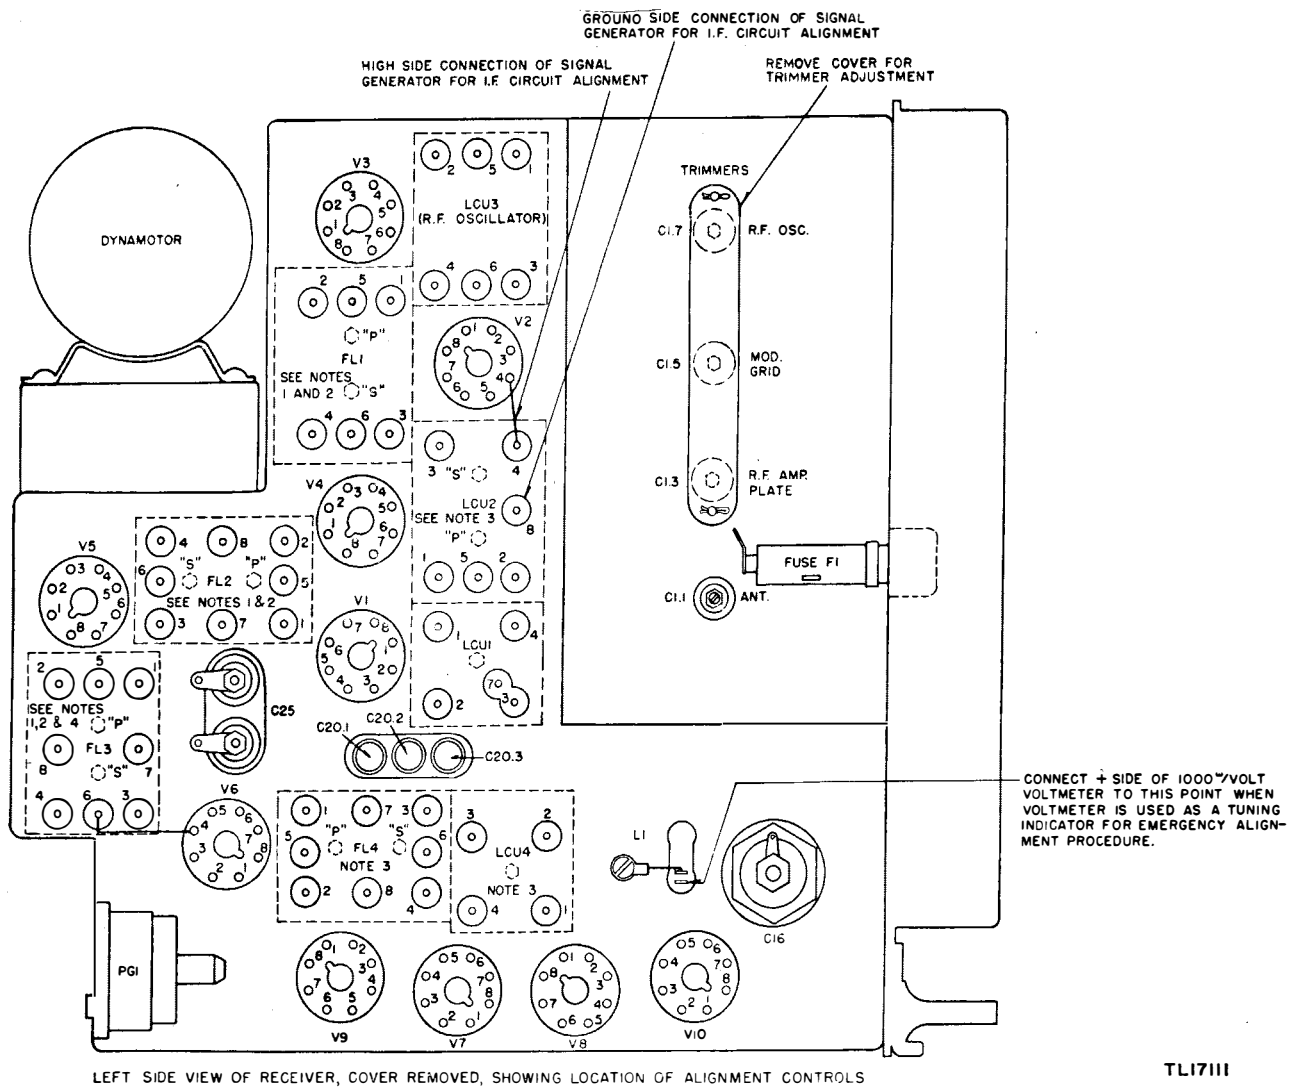

Figure 22. Radio Receiver BC-603-(*), location of alignment and tuning controls.
(2) Short-circuit terminals 1 and 2 of FL3 of the good receiver with a short clip lead.
(3) Connect terminal 7 of FL4 in the good receiver, through the capacitor which is in series with the remaining wire of the twisted pair, to terminal 4 of tube V2 in the trouble receiver. The untwisted part at the ends of the pair of wires should be as short as possible, and the capacitor should be nearest to the good receiver.
(4) Place the SPEAKER switch of the trouble receiver at ON.
(5) Clip a voltmeter across L1 of the trouble receiver. Attach the minus side of the voltmeter to the ground lug. (See fig. 22.) Use the 3-volt scale of voltmeter listed in table I.
(6) If the receiver is seriously misaligned, obtain a rough adjustment by adjusting the slugs in FL3, FL2, and FL1, in that order, for maximum meter reading.
(1) Install the transmitter and the receiver in Mounting FT-237-(*), with the receiver in the right-hand position.
(2) Connect the voltmeter (3-volt scale) across limiter cathode choke L1, as shown in figure 22.
(3) Short-circuit resistor R14, using a short jumper wire.
(4) Connect the 100-mmf capacitor between terminals 1 and 2 of filter unit FI.1.
(5) Remove the cover plates from tuning units LCU1 and LCU2, and from trimmer capacitors C1.3, C1.5, and C1.7. (The cover plate of C1.7 is beside C24.)